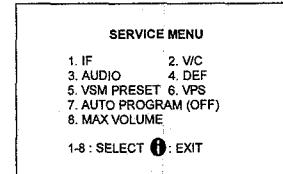
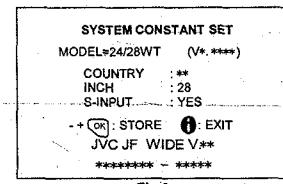

Fig.1
Fig.2
(1) Power off Switch the power off and unplug the power cord from the outlet.
(2) Replace ICs. Be sure to use memory ICs written with the initial data values.
(3) Power on Plug the power cord into the outlet and switch the power on.
(4) Check and set SYSTEM CONSTANT SET: 1) Press the INFORMATION key and the MUTING key of the REMOTE CONTROL UNIT simultaneously. 2) The SERVICE MENU screen of Fig. 1 will be displayed. 3) While the SERVICE MENU is displayed, press the INFORMATION key and MUTING key simultaneously, and the SYSTEM CONSTANT SET screen of Fig. 2 will be displayed. 4) Check the setting values of the SYSTEM CONSTANT SET of Table 1. If the value is different, select the setting item with the FUNCTION UP/DOWN key, and set the correct value with the FUNCTION +/- key. 5) Press the MENU key to memorize the setting value. 6) Press the INFORMATION key twice, and return to the normal screen.
(5) Setting of receive channels Set the receive channel. For setting, refer to the OPERATING INSTRUCTIONS.
(6) User settings Check the user setting values of Table 2, and if setting value is different, set the correct value. For setting, refer to the OPERATING INSTRUCTIONS.
(7) Setting of SERVICE MENU Verify the setting items of the SERVICE MENU of Table 3, and reset where necessary. For setting, refer to the SERVICE ADJUSTMENTS.